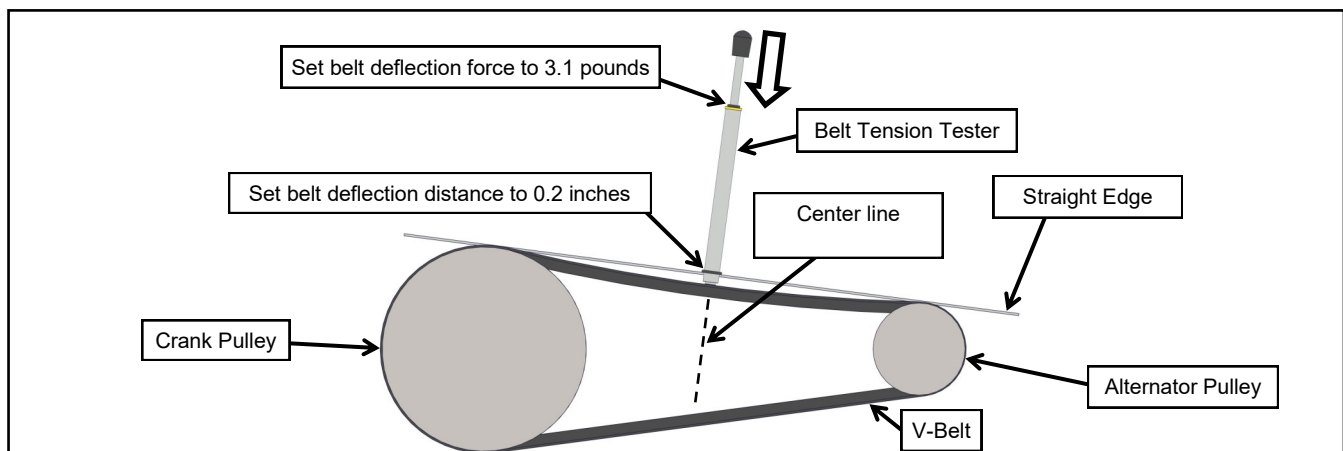

Fig. 3.10 (Tension Alternator V-Belt)
- 3.10** Adjust the M8 tensioner bolt to tension the belt. See figure 3.10. Place a straight edge tangent to crank pulley and alternator. Place belt tension tester in the center and perpendicular to the belt between the (2) pulleys and next to the straight edge. Push the tester towards the theoretical center making sure that a deflection force of 3.1 lbs. gets .2 inches of belt deflection at the center of the belt. See Figure 3.10. Torque all 3/8-16 and M10 hardware to the following 38-46 ft-lb (52-62 Nm) and verify correct tension.